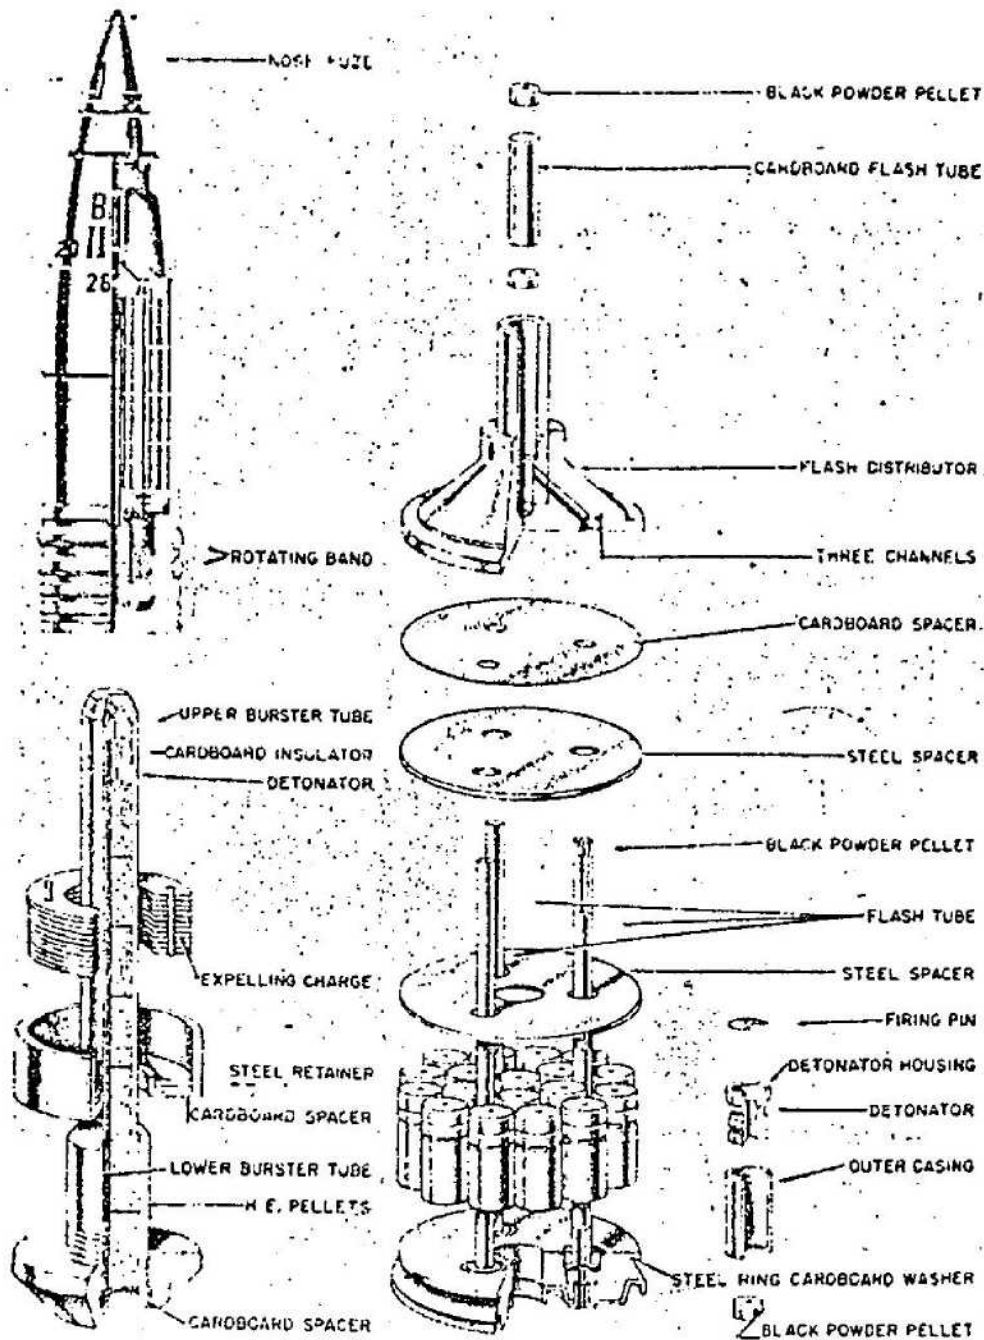

Figure 439—Incendiary Shrapnel Shell for 88-mm A. A. Gun, 8.8-cm Gr. Br. Schr. Flak
**GERMAN NOMENCLATURE:** 8.8-cm Gr. Br. Schr. Flak. (See fig. 439.)